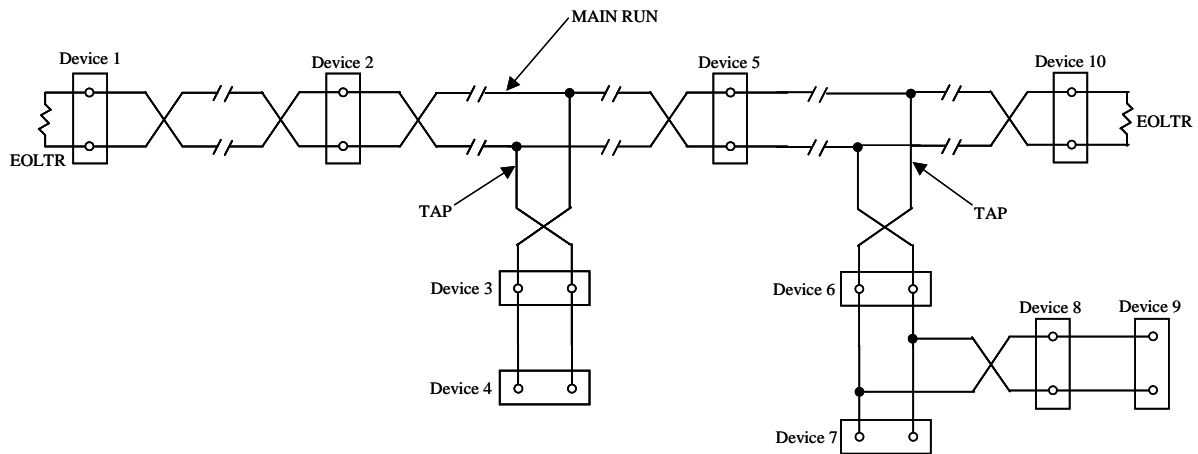
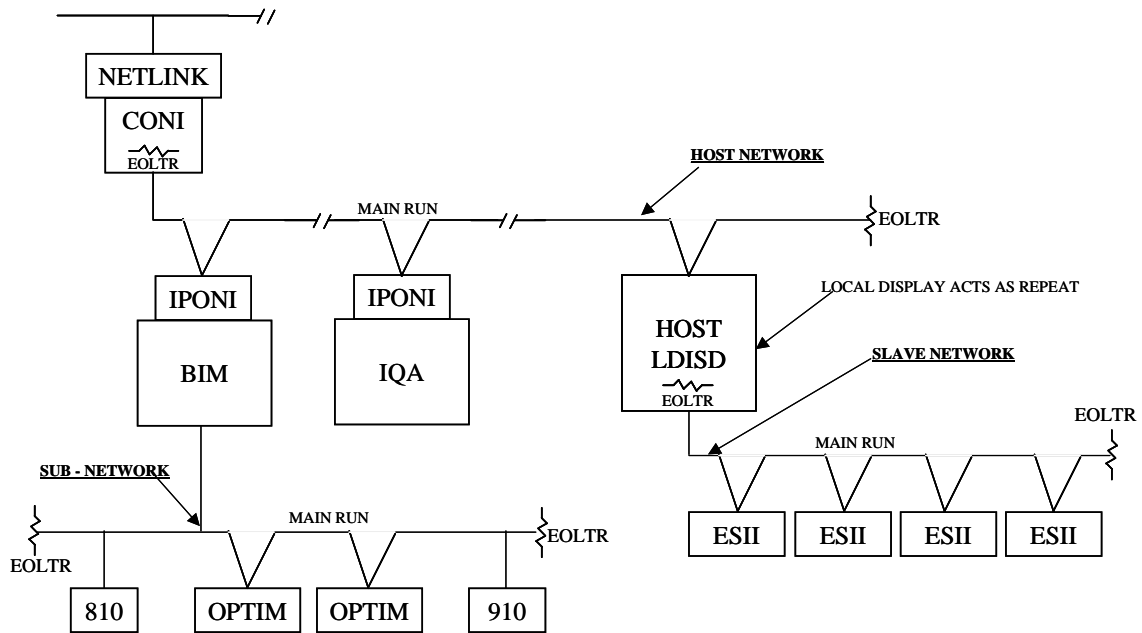

Figure 1-1. Daisy Chain Segment Topology
Figure 1-3. Multi-Level Network Topology Including Host, Slave, and Sub-Networks
- Supports Daisy Chain, Star, and Multi-Level Network Segment Topologies – see Figures 1-1, 1-2 and 1-3 for details. Note: Star Segment Topology is not recommended for new designs.
Daisy-Chain Segment Topology: (See Figure 1-1.) A cable layout containing a single main run of twisted pair. INCOM compatible devices are installed directly as parallel loads across the main run or are located on taps off the main run. Only two EOLTRs are used and must be located at the physical ends of the main run. This is the preferred network topology providing greatest signal integrity and network capacity.
Host Network Segment: (See Figure 1-3.) The INCOM protocol supports two levels of addressing in a hierarchical arrangement. The master device interface is connected to the upper-level, host network segment and initiates communication with slaves connected on that segment. All slave devices on the host network segment must have a unique address. Sub-network master devices can be used to create a second addressing level of slave devices connected to the sub-network masters via a “pass-thru” INCOM protocol.
Slave Network Segment: (See Figure 1-3.) The network segment attached to the local display’s “slave” port. A slave network maintains the same level in the communication hierarchy as the “host” port and must maintain slave address uniqueness on both network segments.
Sub-network: (See Figure 1-3.) The lower-level network segment created by the sub-network master device. The sub-network master is a protocol master on the sub-network segment. Slave addresses must be unique on the sub-network segment. Multi-level addressing is limited to two-deep (i.e., the host port of another sub-network master cannot be attached to a sub-network). Multiple sub-network masters, however, can be installed on the host network.
Each network segment requires a minimum of two End of Line Termination Resistors (EOLTRs) as shown in Figure 1-1 thru Figure 1-3. The EOLTRs maintain signal strength and minimize reflections. The EOLTRs should be ½ Watt non-inductive resistors, such as carbon composition or metal film. Wire-wound resistors are not acceptable. The EOLTR values must be chosen to match the characteristic impedance of the main run cable (typically 78 or 100 Ω). EOLTRs supplied in products may have a value different than the cable impedance. In this case the EOLTR in the product must be disabled and replaced with an external EOLTR of the appropriate value. Taps on network segments should not be terminated.